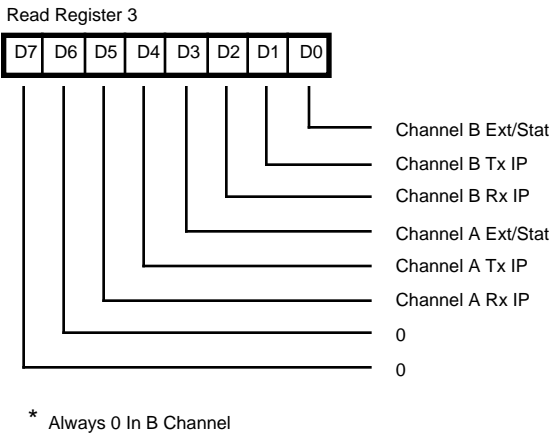

Figure 2-12. RR3 Interrupt Pending Bits
The Interrupt Pending (IP) bit for a given source of interrupt is set by the presence of an interrupt condition in the SCC. It is reset directly by the processor, or indirectly by some action that the processor may take. If the corresponding IE bit is not set, the IP for that source of interrupt will never be set. The IP bits in the SCC are read only via RR3 as shown in Figure 2-12.